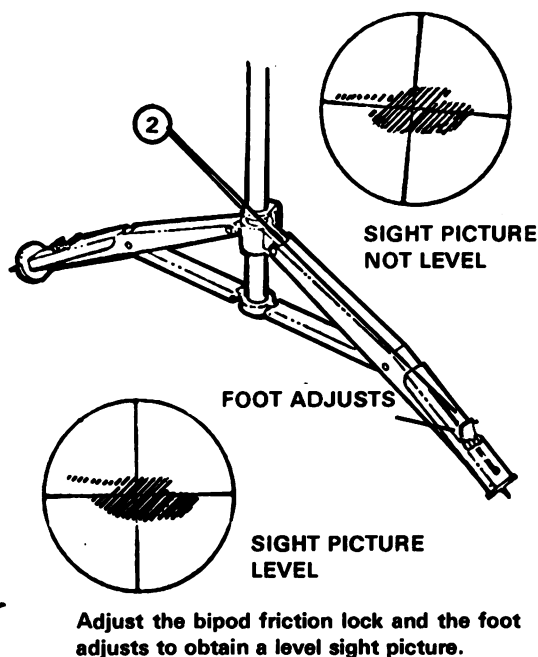

Figure 1a.
(1) As the gunner, place the launcher on your right shoulder as close to the curve of the neck as possible.
(2) Adjust the bipod legs and feet for height and proper leveling (figure 1a).
(3) Point the toes of both feet into the ground with the heels elevated and buttocks resting on the heels.
(4) Place both knees on the ground and keep them spread wide.
(5) Take the slack out of the bipod by pushing forward or pulling backward.
(6) Grasp the left portion of the tracker (optical sight between the shock absorber) with the left hand and the trigger assembly with the right hand. The right thumb is positioned on the safety plunger, three fingers on the trigger lever and the little finger forward of the trigger lever.
(7) Bend forward at the waist until the right eye is pressed firmly against the tracker eyeguard.
(8) Tuck your elbows beneath the tracker and keep them close together.
(9) Apply constant downward and rearward pressure on the tracker.